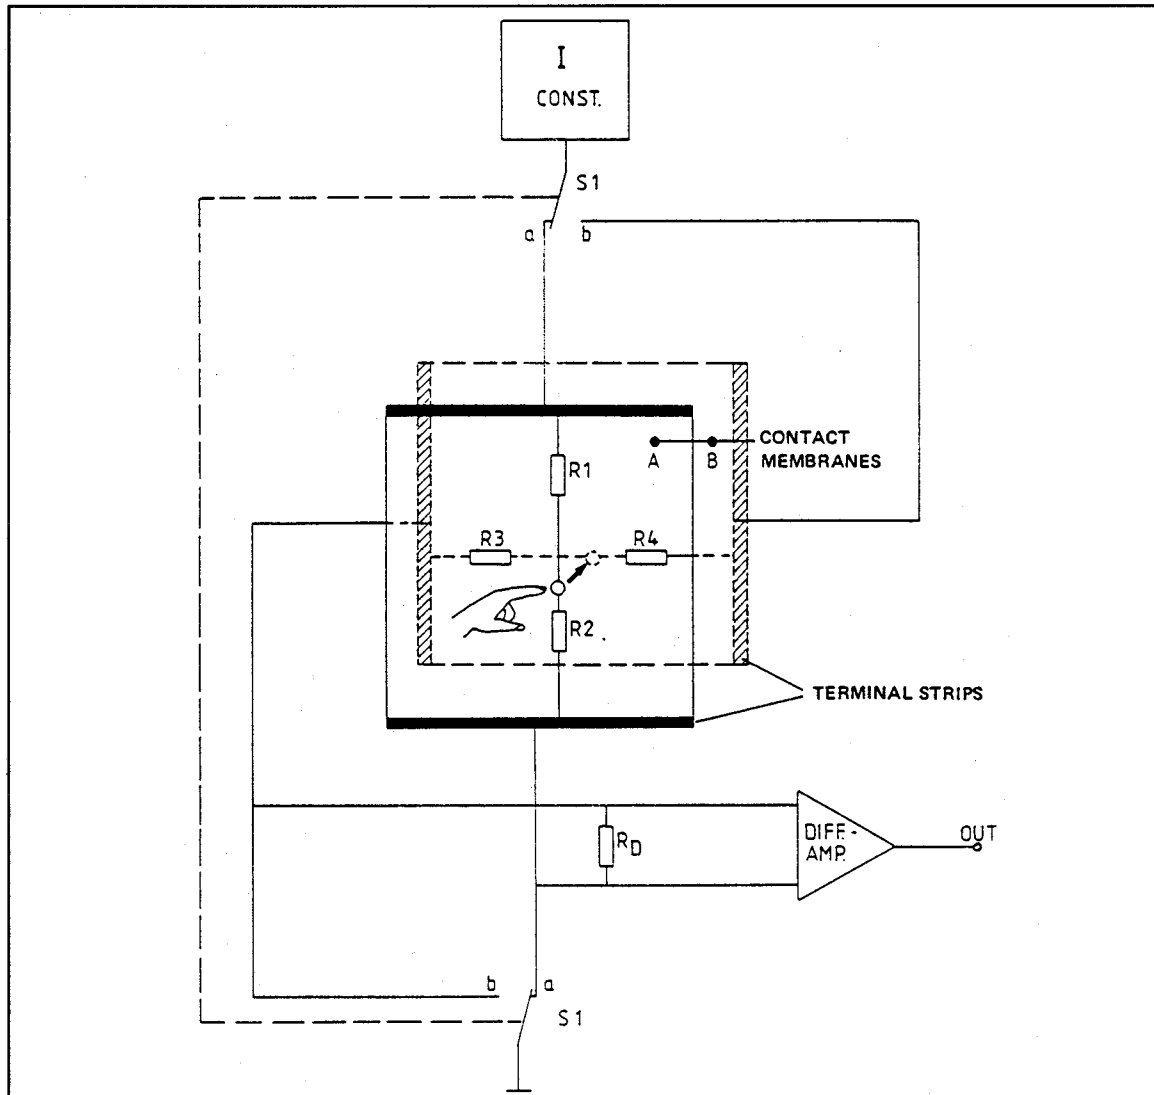

Figure 3-13. TouchScreen Circuit Function
The TouchScreen consists of two conducting membranes, one for up-down (Y) and one for left-right (X). See Figure 3-13. The two membranes are separated by tiny silicone dots. Each membrane has a low resistance. A pair of power MOSFETs alternately connect one end of each membrane to ground and the other end to 1.25 V_{DC}. In this application power MOSFETs are used for their low "ON" resistance and not for their power handling capability.